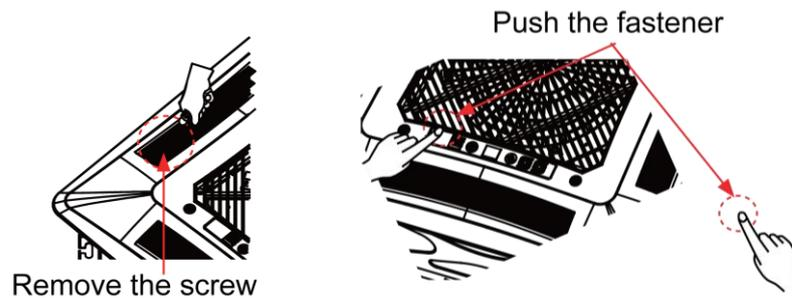

Fig 4.4.4
- (1) Detach the panel's Corner Cap, there is a mark "piping side" on one of the 4 corners, adjust the panel direction so as to keep the mark and fittings on the same corner, as shown in fig4.4.4